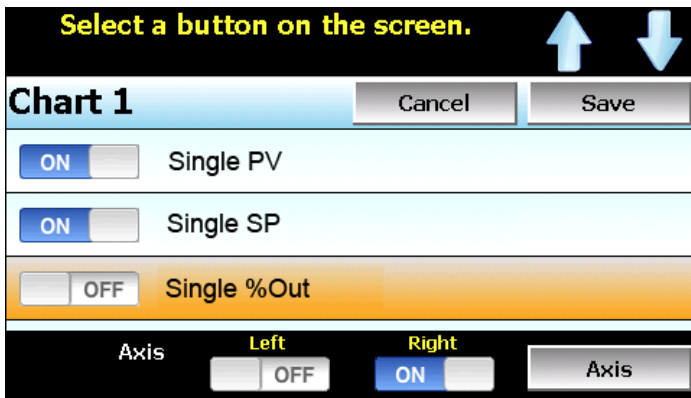

Fig. 67: Chart Set Up Screen
- The setup screen appears (Fig. 67). To assign channels to the chart, touch the ON/OFF button for the desired items in the list to select them. Select the left or right vertical axis for each item by selecting the item in the list and press the button for the desired “Left” or “Right” axis. The left axis is the default axis selection. If none of the channels are assigned to the right axis, the axis will not be shown on the chart.